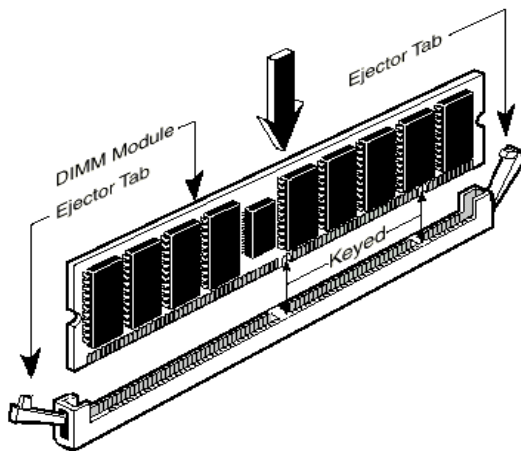

Figure 2-6. Memory module installation
- Step 5.** Insert the DIMM module into the expansion socket as shown in the illustration. Note how the module is keyed to the socket. You can refer to figure 2-6 for the details. ***This insures the DIMM module will be plugged into the socket in one way only.*** Firmly press the DIMM module into the DIMM socket, making certain the module is completely seated in the DIMM socket.